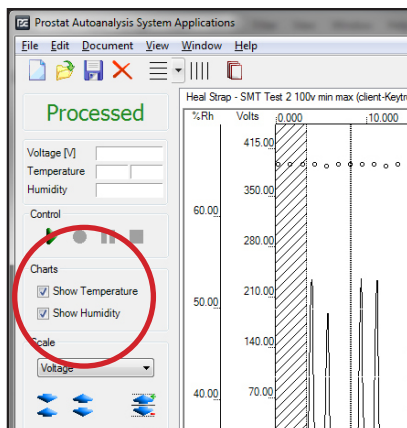
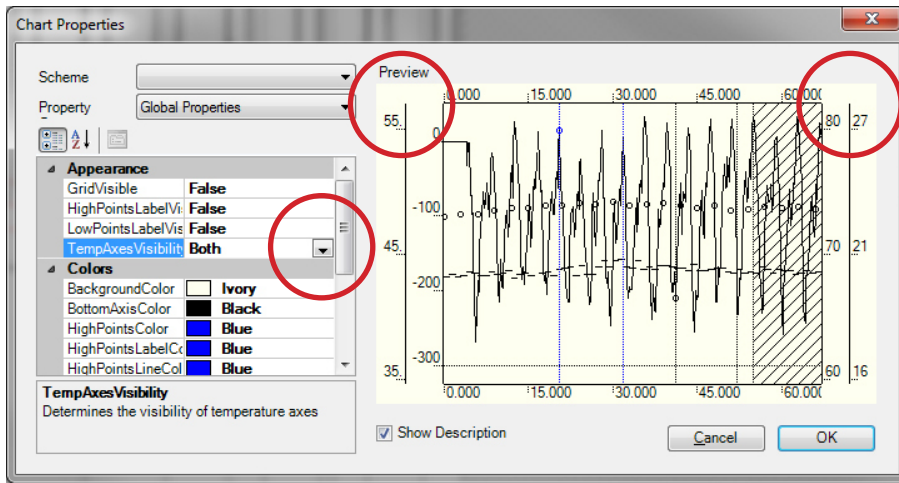

Figure 28: Check Show Temperature and Humidity Boxes to display related
Figure 29: Chart Properties Window
To display temperature and, or humidity, check the **Show Temperature** and **Show Humidity** boxes listed under **Charts** in the left panel (Figure 28). The default temperature display is Celsius (°C). To display Fahrenheit (°F) or both °C and °F:
1. Open Document drop down menu and select Appearance Options. The **“Chart Properties”** window is opened (Figure 29).
The Appearance Options, Chart Properties window (Figure 29) establishes what is to be displayed, i.e., Celsius (°C), Fahrenheit (°F) or both. Checking, or un-checking the **“Show”** boxes (Figure 28, above) determines whether or not the selected items are displayed in the chart.